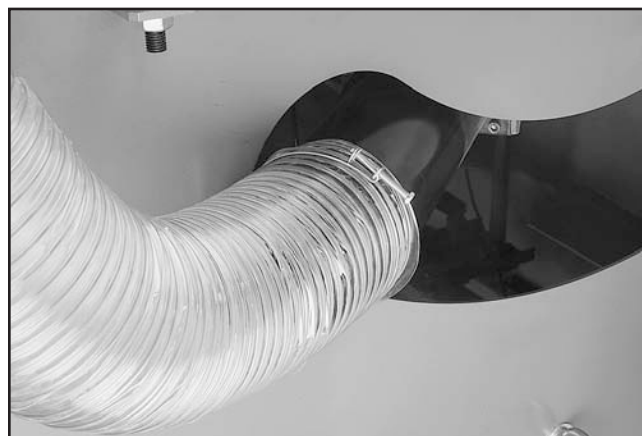

Figure 48. 5" dust port location.
45. Secure a 5" dust hose to the dust port located under the saw table (**Figure 48**).